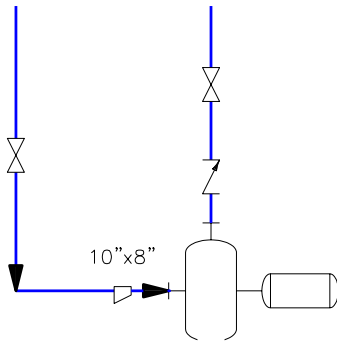

Figure 2-73 Check valve and gate valve placed on the outlet line of the first pump
7. Place Check Valves and Gate Valves on the outlet lines of the two pumps, refer to Figures 2-73 and 2-74.